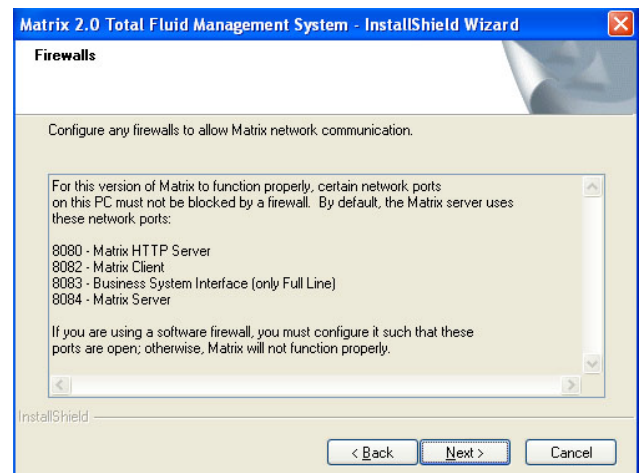

FIG. 15 Setup Path 1 - Firewalls
- Note firewall configuration settings that may need to be changed for Matrix to function (FIG. 15). Click **Next**.